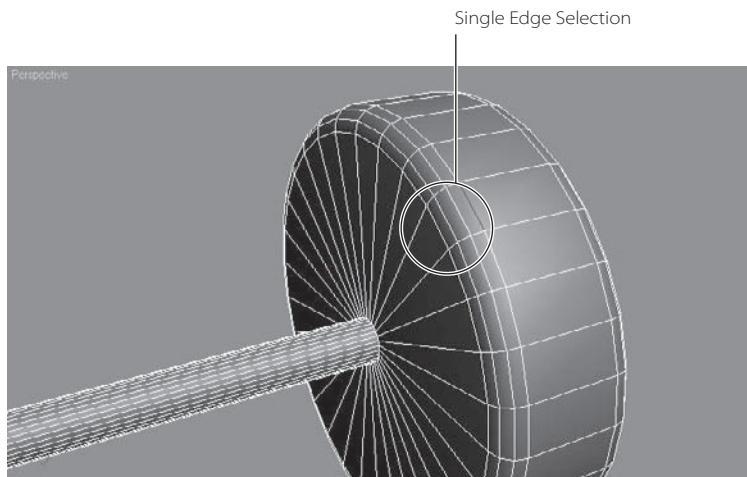
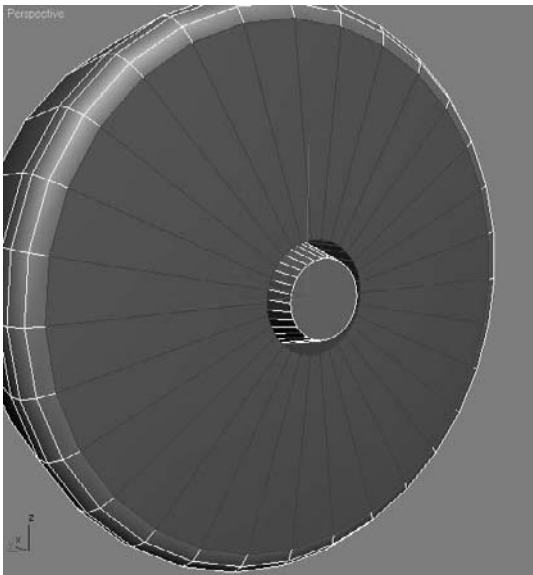
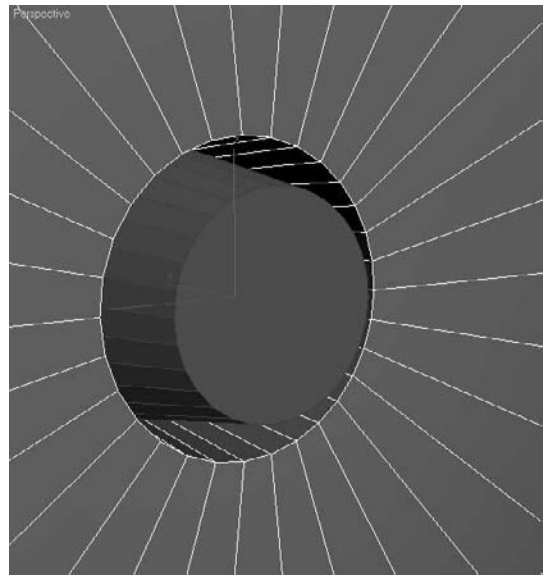

**Figure 7.63**
Figure 7.67
Figure 7.68
- Click the Select tool (  ). Now, select the polygons that make up the tire portion of the wheel, as shown in Figure 7.63.
9. Once you have saved the selection set, select the white portion of the wheel, as shown in Figure 7.67 as well as in Figure 7.63. Save a Named Selection set called `Wheel_White`.
10. Finally, select the middle part of the wheel (the bolt) as called out in Figure 7.63 and shown in Figure 7.68, and create a Named Selection set called `Wheel_Bolt`.